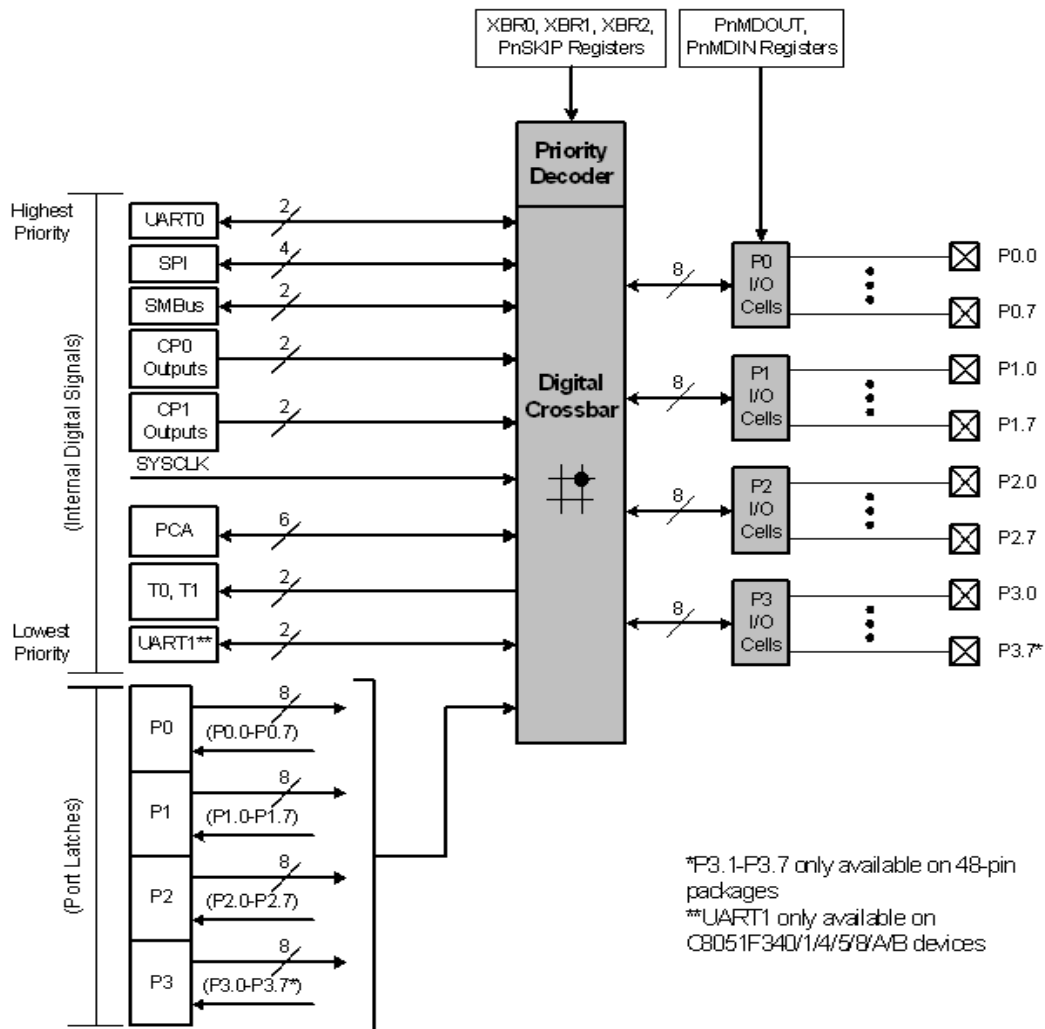
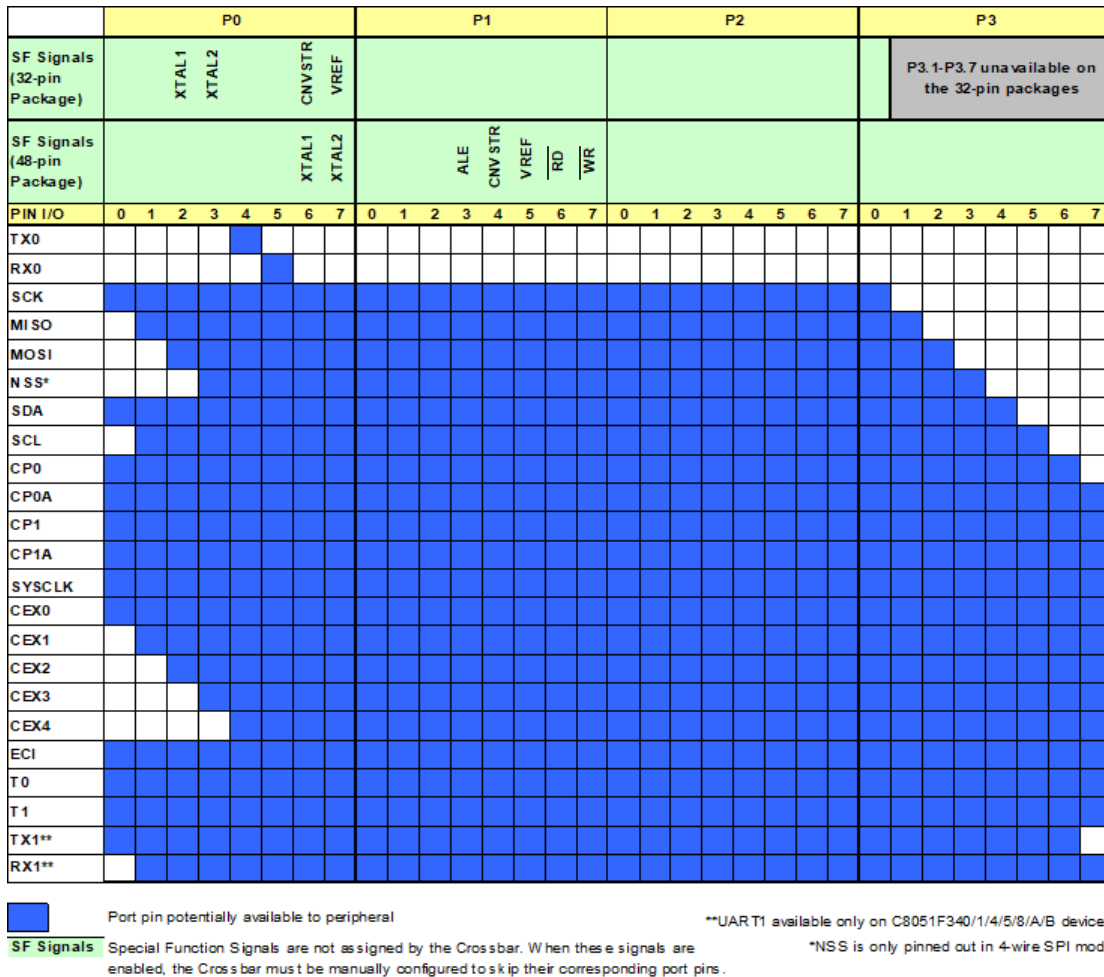

Figure 15.1. Port I/O Functional Block Diagram (Port 0 through Port 3)
Figure 15.3. Peripheral Availability on Port I/O Pins
Digital and analog resources are available through 40 I/O pins (48-pin packages) or 25 I/O pins (32-pin packages). Port pins are organized as shown in Figure 15.1. Each of the Port pins can be defined as general-purpose I/O (GPIO) or analog input; Port pins P0.0-P3.7 can be assigned to one of the internal digital resources as shown in Figure 15.3. The designer has complete control over which functions are assigned, limited only by the number of physical I/O pins. This resource assignment flexibility is achieved through the use of a Priority Crossbar Decoder. Note that the state of a Port I/O pin can always be read in the corresponding Port latch, regardless of the Crossbar settings.
The Crossbar assigns the selected internal digital resources to the I/O pins based on the Priority Decoder (Figure 15.3 and Figure 15.4). The registers XBR0, XBR1, and XBR2 defined in SFR Definition 15.1, SFR Definition 15.2, and SFR Definition 15.3, are used to select internal digital functions.
The Priority Crossbar Decoder (Figure 15.3) assigns a priority to each I/O function, starting at the top with UART0. When a digital resource is selected, the least-significant unassigned Port pin is assigned to that resource (excluding UART0, which is always at pins 4 and 5). If a Port pin is assigned, the Crossbar skips that pin when assigning the next selected resource. Additionally, the Crossbar will skip Port pins whose associated bits in the PnSKIP registers are set. The PnSKIP registers allow software to skip Port pins that are to be used for analog input, dedicated functions, or GPIO.
**Important Note on Crossbar Configuration:** If a Port pin is claimed by a peripheral without use of the Crossbar, its corresponding PnSKIP bit should be set. This applies to the VREF signal, external oscillator pins (XTAL1, XTAL2), the ADC's external conversion start signal (CNVSTR), EMIF control signals, and any selected ADC or Comparator inputs. The PnSKIP registers may also be used to skip pins to be used as GPIO. The Crossbar skips selected pins as if they were already assigned, and moves to the next unassigned pin. Figure 15.3 shows all the possible pins available to each peripheral. Figure 15.4 shows the Crossbar Decoder priority with no Port pins skipped. Figure 15.5 shows a Crossbar example with pins P0.2, P0.3, and P1.0 skipped.